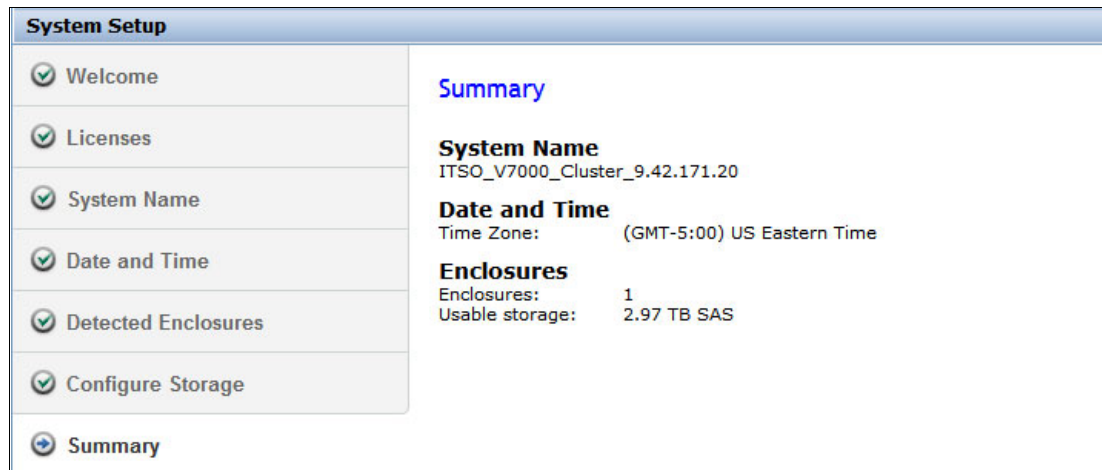

Figure 6-132 V7000 Setup wizard: Summary
- Verify the configuration settings in the Summary window, as shown in Figure 6-132.